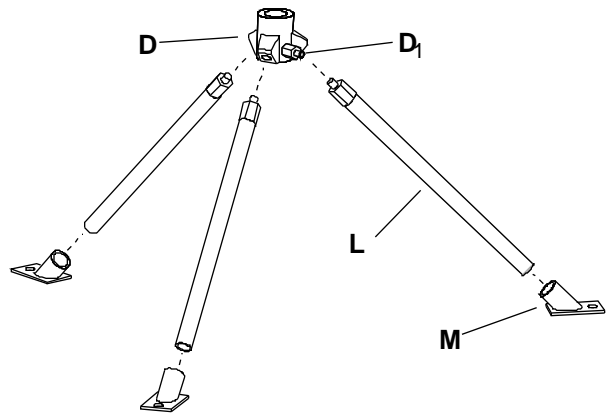

Figure 3
3. Pull the *knob* (D₁, Fig. 3) on the tripod seat and
4. Insert the *support assembly* (F) onto the *tripod seat* (D) by first pulling out the *knob* (D₁, Fig. 3) on the *tripod seat* (D). When the knob is released, the support assembly will be secured to the tripod seat.
5. Screw four *double-ended threaded studs* (M) (short-threaded end) into bottom of the *housing base* (C₁) of the hydraulic pump unit.
6. Place the *hydraulic pump unit* (C) onto the lower wing plate such that the studs protrude through the bottom of the wing plate.
The direction of the pipe bender can be adjusted by pulling out the *knob* on the *tripod seat* (D₁, D, Fig. 3) and rotating the pump unit. When the knob is released, the pipe bender can still be adjusted. The machine can only be fixed in one position by rotating the pipe bender until the position rod resets into the indent in the base of the tripod seat.